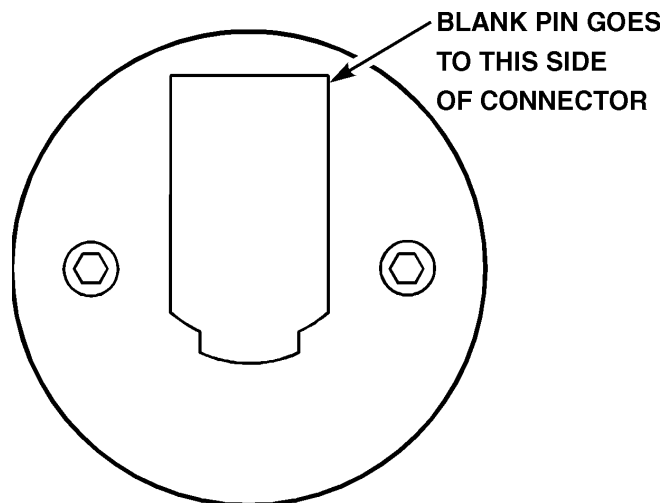

Fig. 5-2 Jog handle encoder.
4. Unplug the cable leading to the **jog handle encoder**. **IMPORTANT!** The blank pin side of the connector must face as shown in Fig. 5-2 when reconnecting; otherwise, damage may occur to the machine.